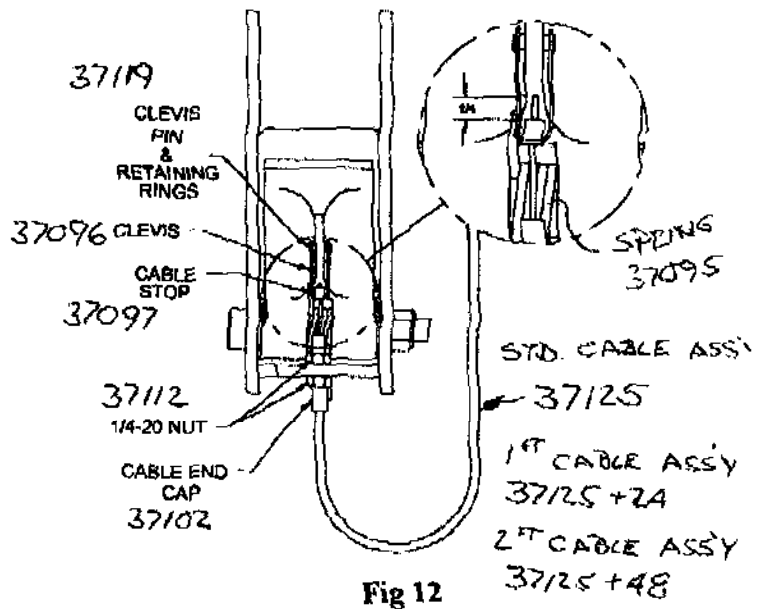

Fig 12
20. Attach the clevis to the bottom hole of the idler side locking pawl using the clevis pin and retaining ring. The complete assembly for the idler column should be as shown in Fig 12.